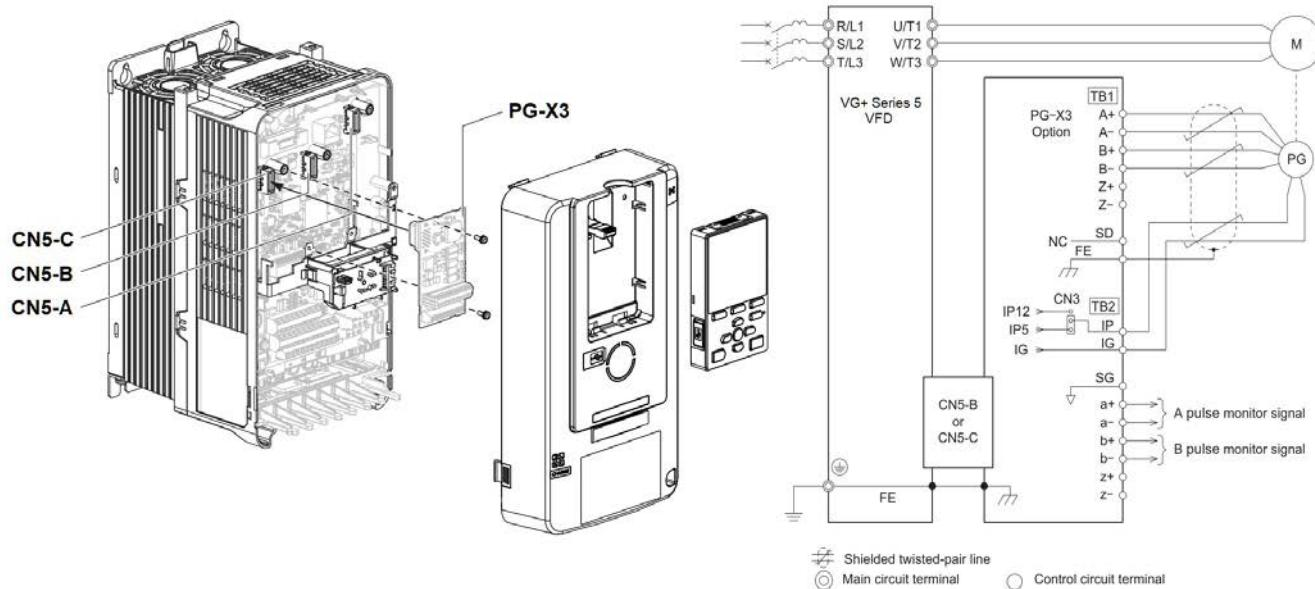

Figure 3-26: PG-X3 Encoder Card Wiring
2. Connect the encoder to the PG-X3 Encoder Option Card. **See Figure 3-26 on page 61.**